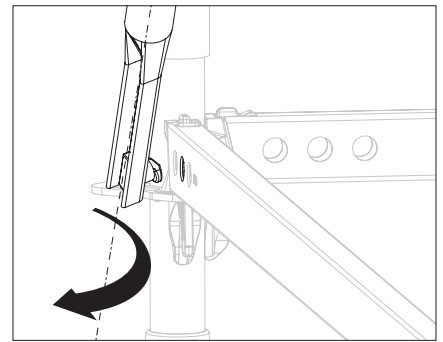

Fig. A4.07b
2. Screw the mounting finger into the hole of the lower horizontal ledger (14a). (Fig. A4.07b)